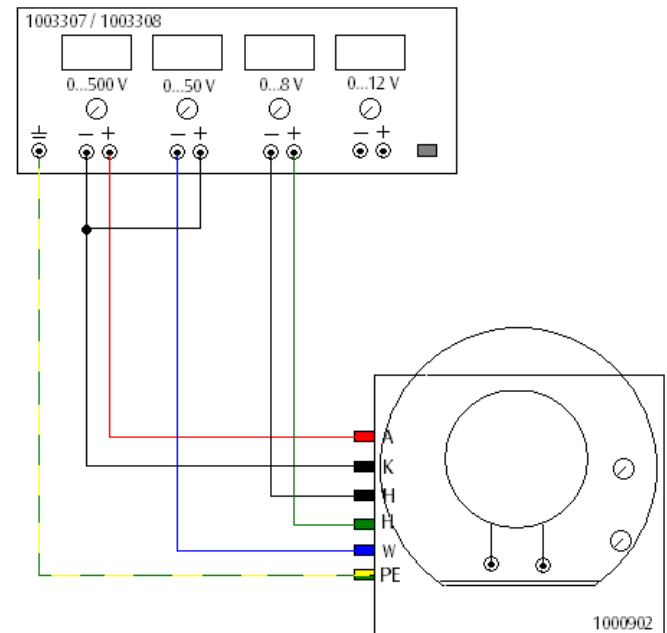

Fig. 3: Connection of training oscilloscope to power supply.
- Connect the inputs of the demonstration oscilloscope to the outputs of the power supply that supply the specified voltages (Fig. 3).